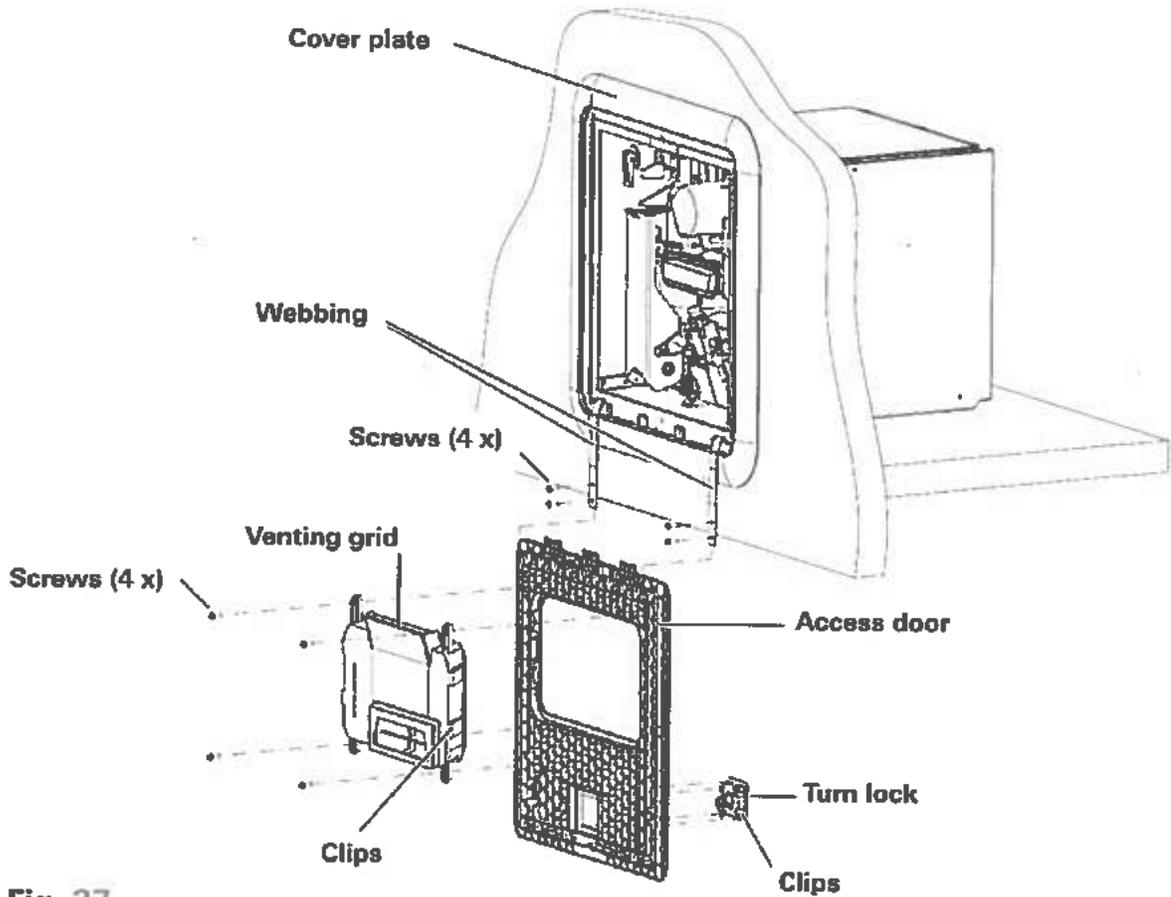

Fig. 37
**The following parts (see Fig. 37) must not be painted:**
- After removing the screws, depress the four (4) clips on the side of the ventilation grille and remove it as shown in Fig. 37.
To remove the turn lock, depress the four (4) clips and remove it as shown in Fig. 37.